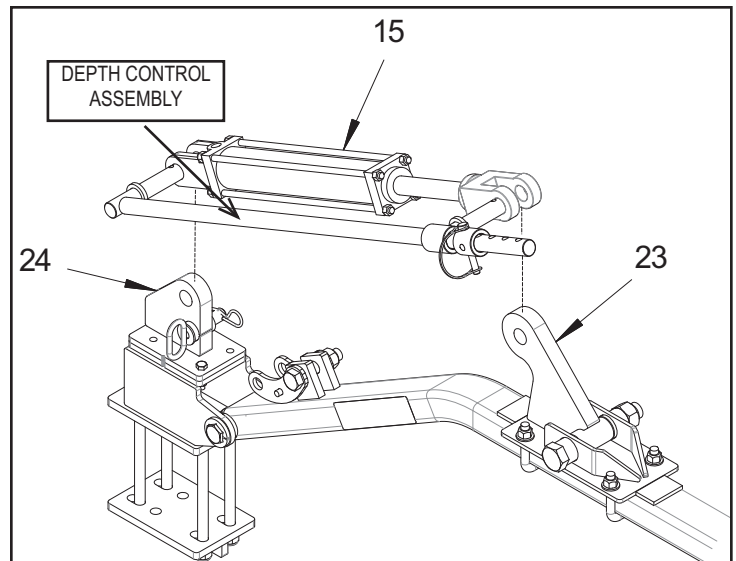

Figure 2.4 - Hydraulic Ram Installation
Refer to *Figure 2.4 & 2.5* for this step.
1. Using the depth control assembly, slide the ends of the pins into the FIRST tab of the hydraulic ram as shown in *Figure 2.4*.